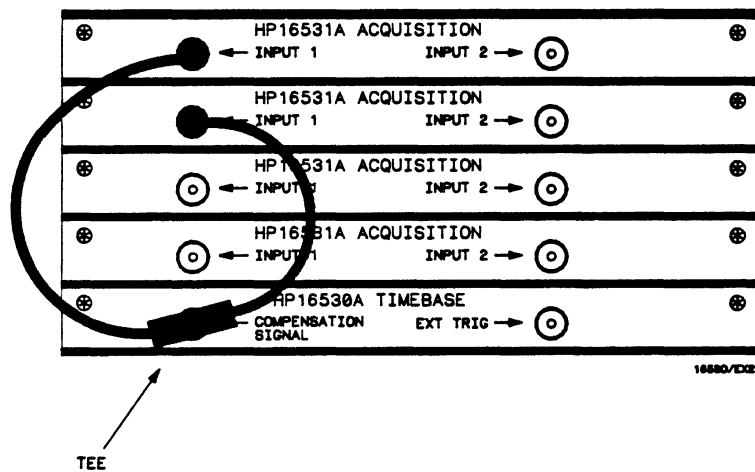

Figure 4-16. Channel-to-Channel Skew Equipment Hookup
- v. If there are multiple acquisition cards, leave compensation signal connected to reference and move other BNC to next channel to calibrate. See figure 4-16. Touch Autoscale, then touch Continue.